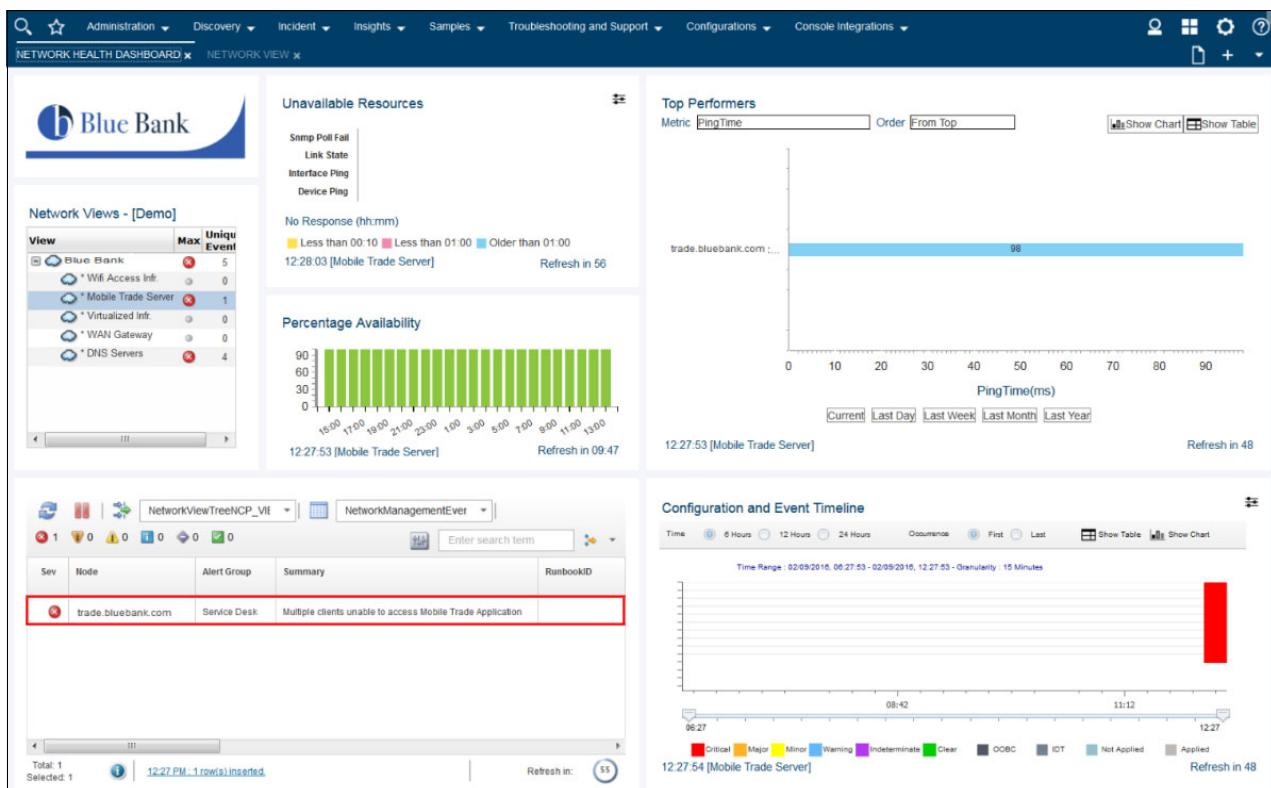

Figure 2-18 View Network events that are related to the Mobile Trade Server
2. Annette sees that multiple clients cannot access the Mobile Trade server. She can isolate the events and network details that are related to this Service by clicking **Mobile Trade Server** under the Network Views, as shown in Figure 2-18.